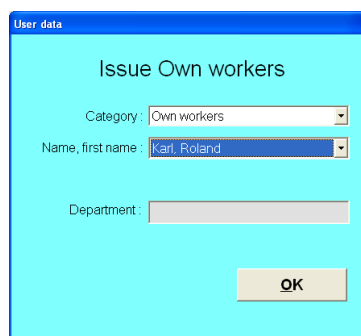

Figure 2
4. Insert EPD in a jack on a front panel of EPD-Reader. The program recognizes your dosimeter and asks for your surname and name (Fig. 2).